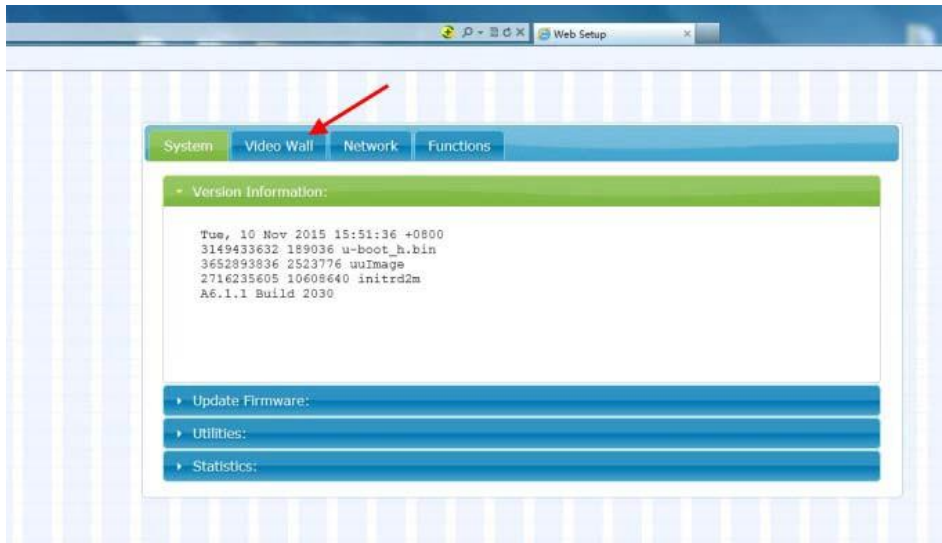

Figure 4. Web User Interface
3. The administrator can input Transmitter or Receiver IP address into the address bar of a web browser (Recommend Google Chrome) to enter the Extender Web UI. If successful, the administrator will see the Web UI as shown in Figure 4.